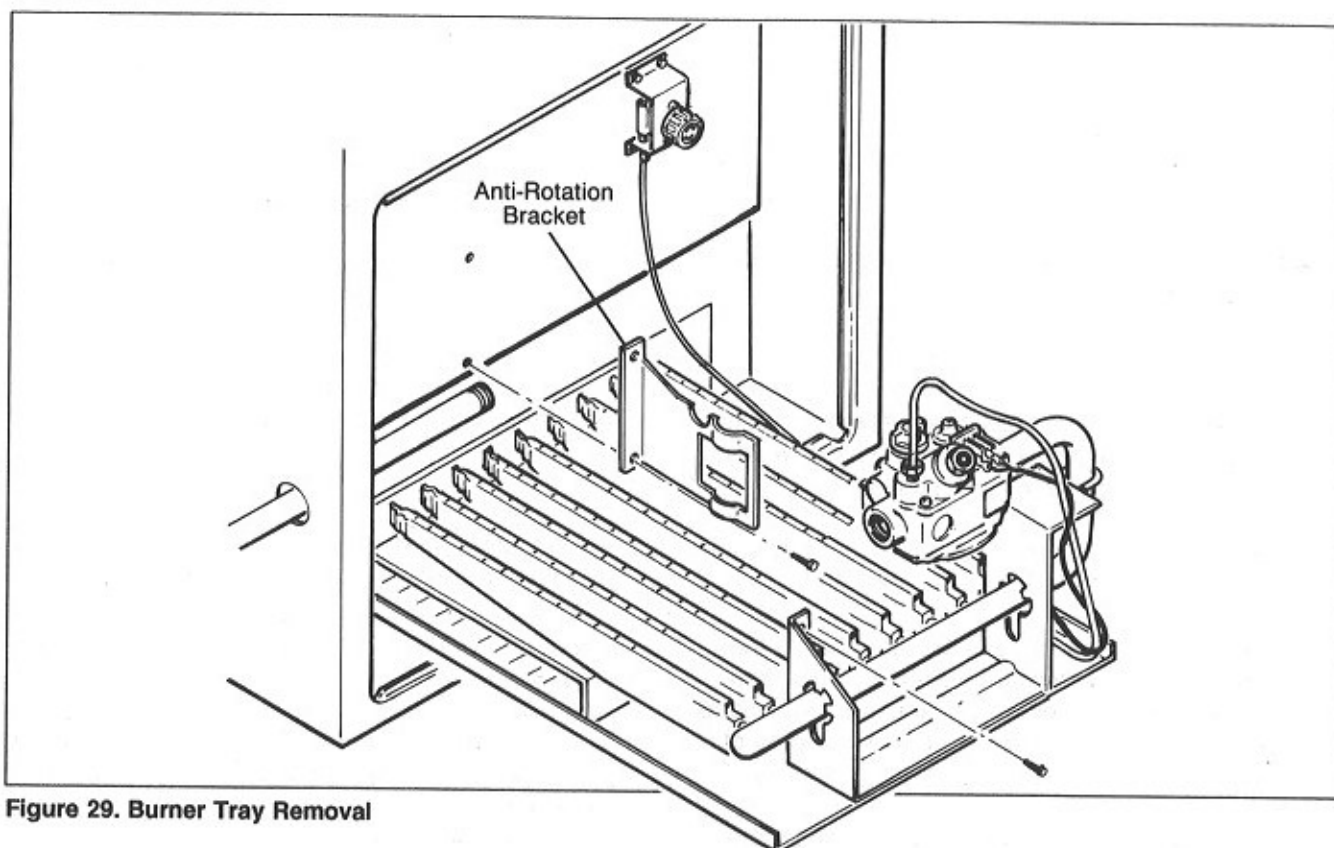

Figure 29. Burner Tray Removal
4. Remove the two screws securing the anti-rotation bracket to the inner panel, and the three screws attaching the manifold bracket. Slide the burner tray out of the heater (see Fig. 29).
5. Grasp the burner firmly, and push it away from the manifold until it is clear of the orifice. Slide it out of the burner tray (see Fig. 29).